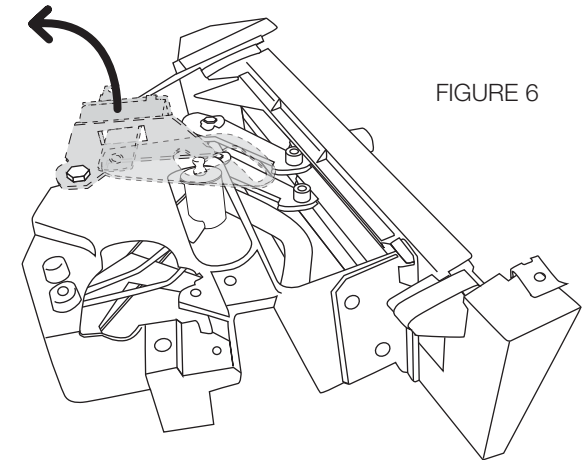

FIGURE 6
- 1) Remove the control cables, the original blower switch (and it's accompanying bracket) and set aside. These will not be reused, but retain the OEM screw, it will be reused (see figure 6).